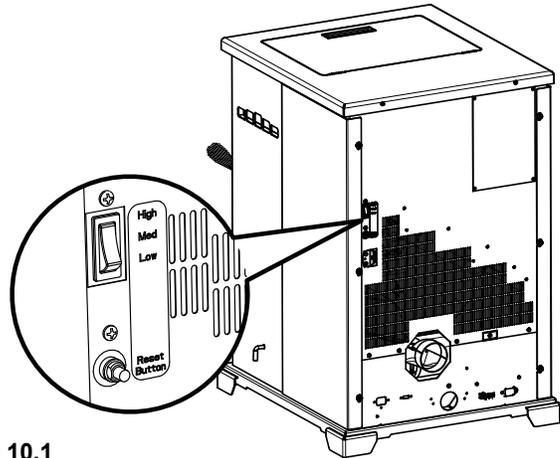

Figure 10.1
This appliance is equipped with a heat output control switch that has three settings or burn rates; low, medium and high (**Figure 10.1**). The appliance will turn on and off as the thermostat demands. When the thermostat calls for heat, the appliance will always start up on High. After burning approximately 4 minutes, the appliance will then burn at the rate at which it was originally set. If the appliance is set at one of the lower settings, it will run quieter but takes longer to heat up an area than if it were set at a higher burn rate. Regardless of the burn rate, when the area is warm enough to satisfy the thermostat, the appliance will shut off.
3. Locate the heat output control switch mounted on the back of the appliance in the upper left corner (**Figure 10.1 on page 10**).